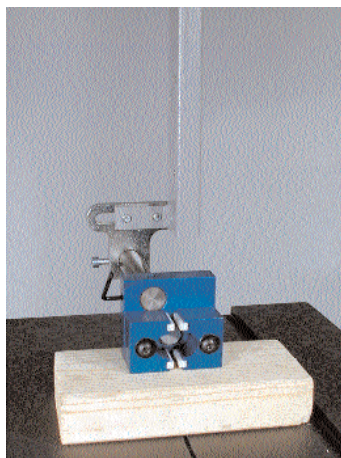

Fig. 23
5. Fit the Surround Guide as shown in Fig 23.